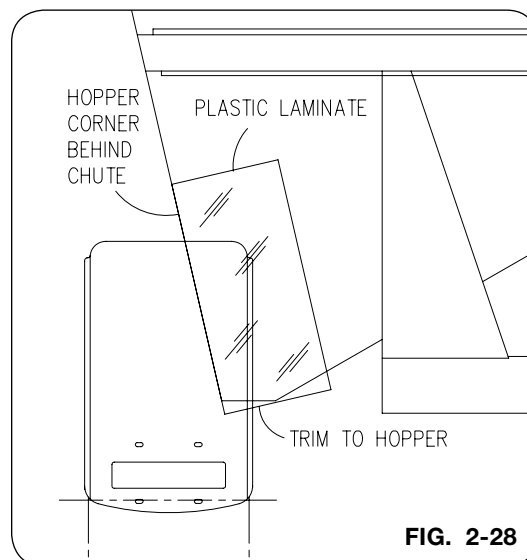

FIG. 2-28
11. Insert knotted stretch rope (221722) through flat washer (9405-074), plastic tube (221668) and end plug (9004947). Place these items as an assembly into front end of 2" roll tube weldment and press the end plug into the end of the tube. Screw self-drilling screw (9001396) through the side of roll tube, into end plug (9004947) to retain plug into tube. Slide hose (TA806225) over bungee. See Fig. 2-28.